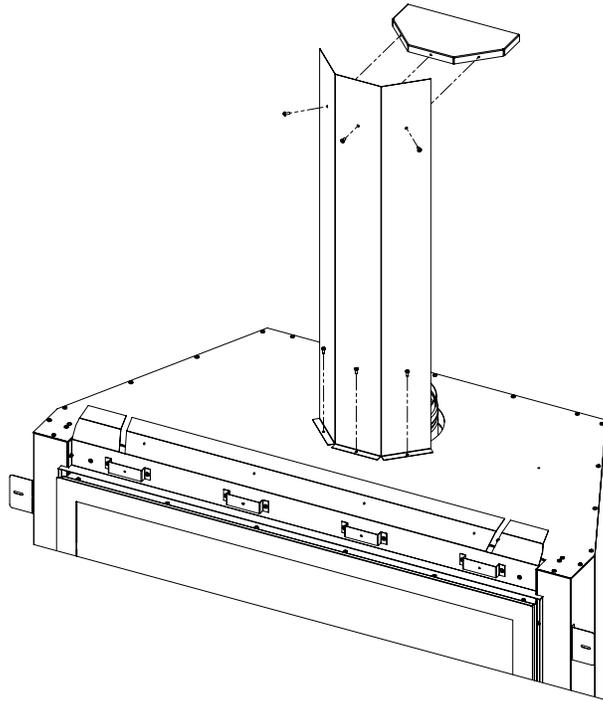

Figure 29: Vent Shields
All vent configurations require installation of the vertical vent heat shield. Remove the three (3) T-20 screws from their respective locations and use to secure the shield in position (see Figure 29).
The horizontal vent heat shield is only required for minimum vertical rise vent configurations. Use three (3) supplied T-20 screws to secure it to the vertical vent heat shield (see Figure 29).